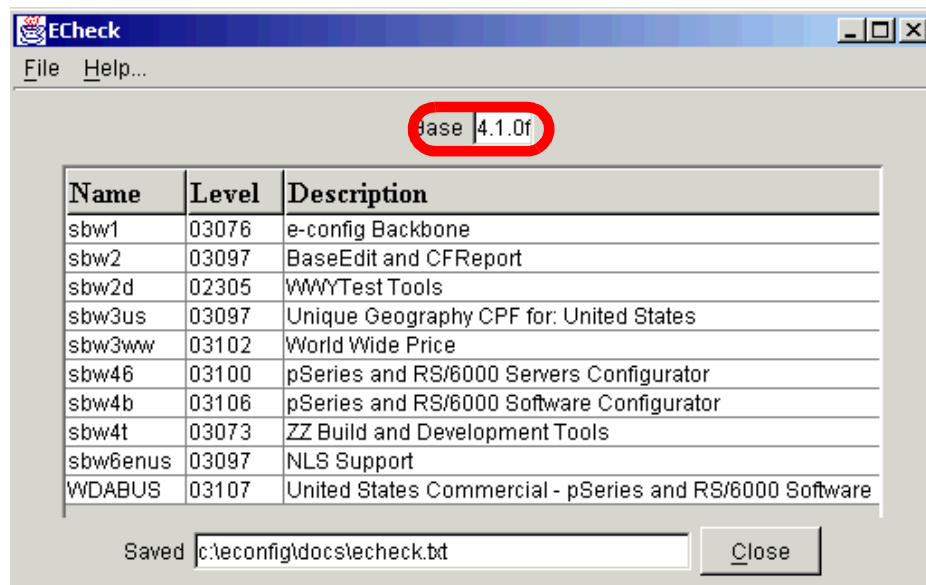

Figure 3-1 IBM Configurator for e-business version
**Note:** At the time of writing of this book, an internal test of Version 4.1.1 of the IBM Configurator for e-business was used as shown in Figure 3-1. Changes or enhancements to e-config may occur so that information in this chapter might not be completely accurate over time. The version of e-config is the number displayed in the Base field of the ECheck tool provided with e-config (see Figure 3-1). It is not the version displayed if you click **Help -> About SCPortfolio** in the configurator.